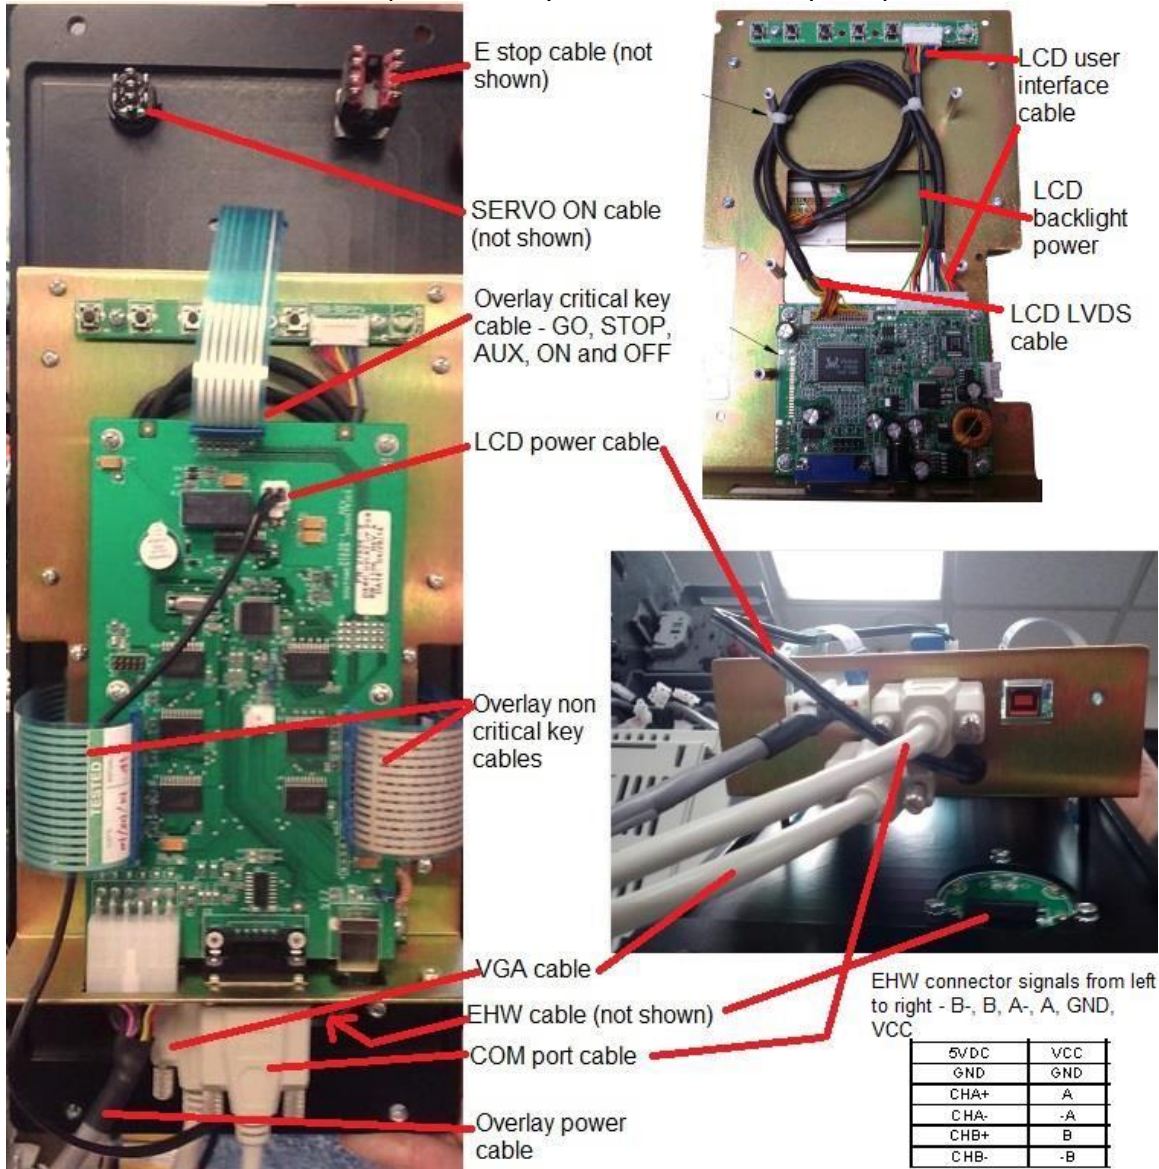
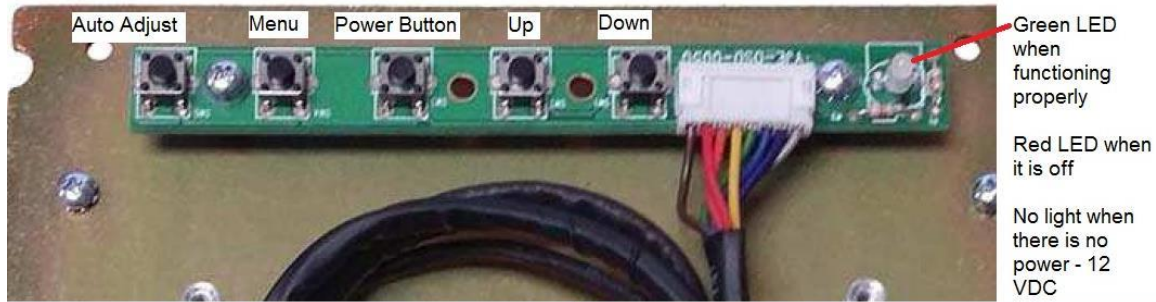

Figure 5.4b – Programming Panel Rear View
Figure 5.4c – LCD User Interface Board
The programming panel has 6 cables that run from this panel back to the computer module. See figure 5.4b. They are as follows:
2. LCD User interface board - sets the video input signal and adjusts the screen image for brightness, contrast, etc. It also switches on/off the controller board and LCD screen. It has 1 LED light that shows the state of the controller. This light is green and indicates the board is on. If you see a red light, something is wrong and there most likely will be no video. This light should always be on when power (12 VDC) is available. Press power button to see if light comes back on. See figure 5.4b and 5.4c.
| Overlay Key failure | Keys on panel do not work. Check by using service code 81. The screen will display a picture of the overlay. Each key pressed on the overlay will light up on the screen and the pendant will beep which means it is working. If not check the connections between the Program panel overlay and the overlay interface board. Also check the overlay power cable for the critical keys and COM port cable for all other keys. Refer to Fig. 5.4b. |
| LCD has no display | You will not have the ability to see the video signal. Make sure the user interface board is not turned off (figure 5.4c). If the user interface board LED is on but the backlights remain off. Check all cable connections to LCD controller board and inverter board. See Fig. 5.4b. |